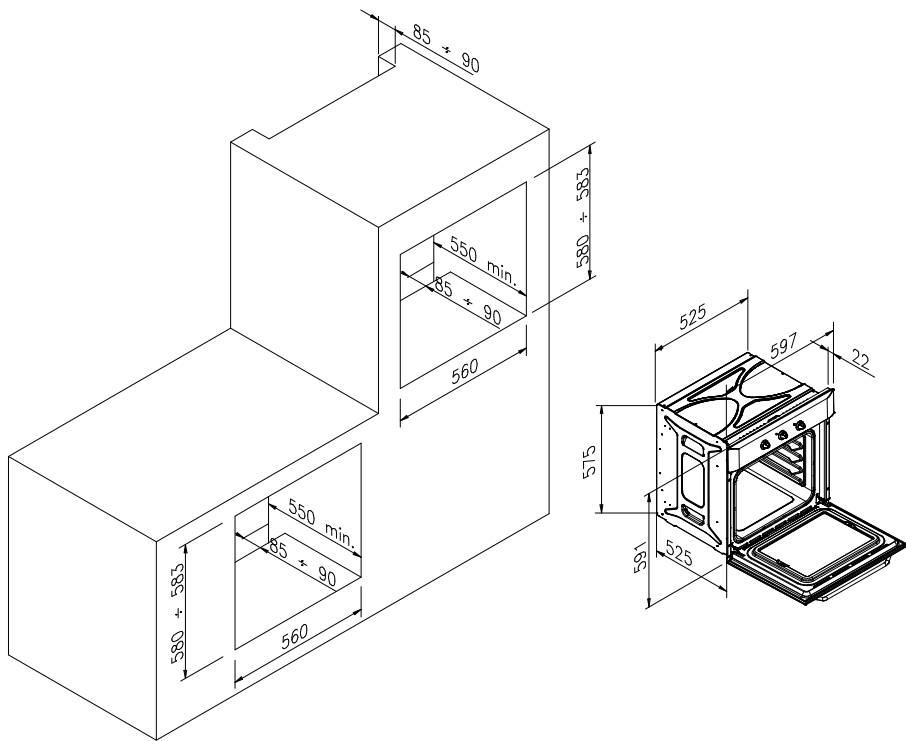

Fig. 2: Installation distances for 60cm wide single electric ovens
### **POSITIONING THE APPLIANCE** (see Fig. 2 page 18)
1. Ensure that the aperture for oven installation is the correct size as per Fig. 2 page 18.